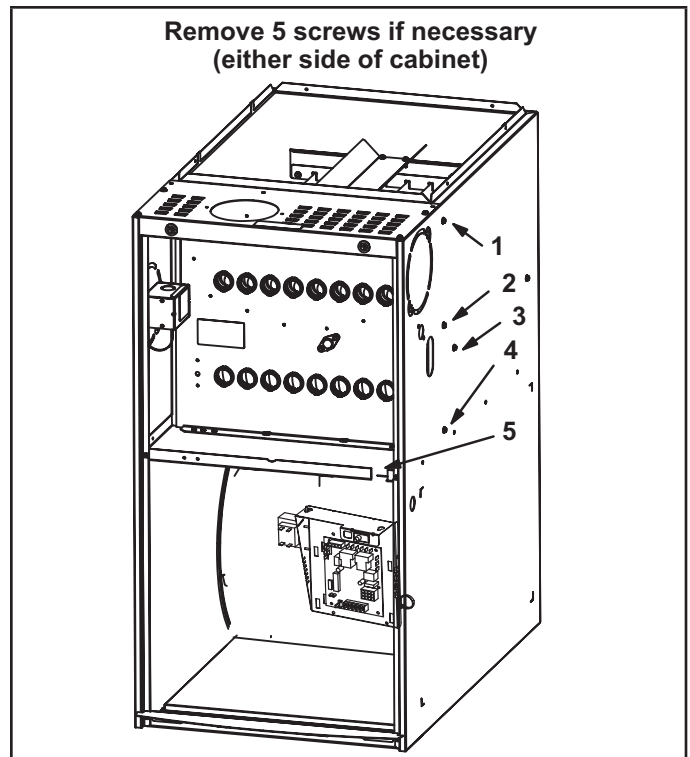

FIGURE 28
- 9 - Remove heat exchanger. It may be necessary to spread cabinet side to allow more room. If so, remove five screws from the left side or right side of cabinet. See FIGURE 28.